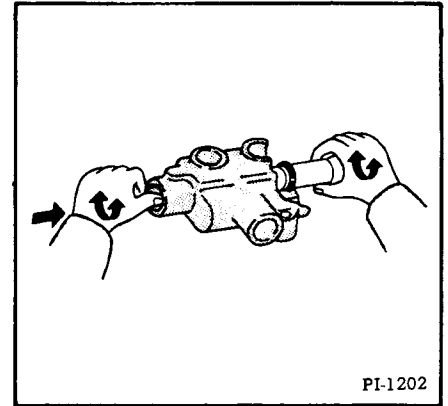

Fig. 19 Pushing Spool Through Seal
(10) Again insert the special tool into the spool housing, (into the front this time) and with a twisting motion carefully push the tool through the new seal until it is stopped by the spool shoulder. With a twisting motion, push the spool (from the back) against the special tool (Fig. 19) until 1/4" of the polished surface of the spool remains exposed at the front of the valve. Remove the special tool from the front of the valve.
(11) At the back of the valve, install the parts removed in step 2. Be sure the assembly screw is tightened securely.
(12) Replace the stop disc and snap ring. Be sure the ring is properly seated in its groove. Replace the rubber bonnet.